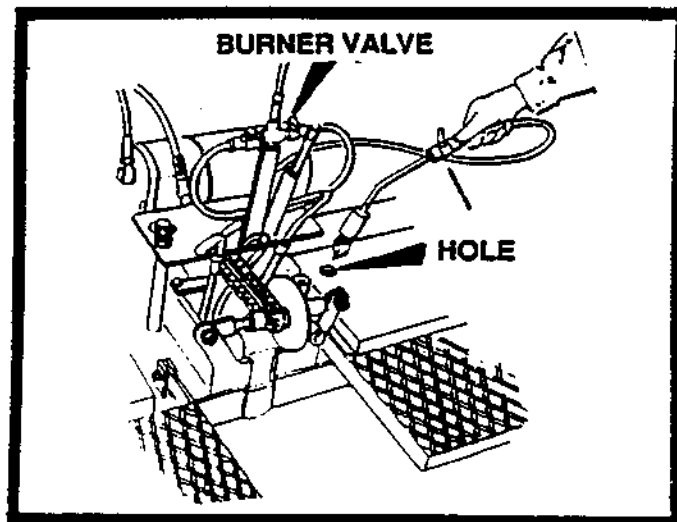

FIGURE 8
4. Direct ignitor flame into opening at end of main burner, and turn burner valve to "on" position. When the burner is lit, follow same procedure for burner on opposite side as shown in figure 8.